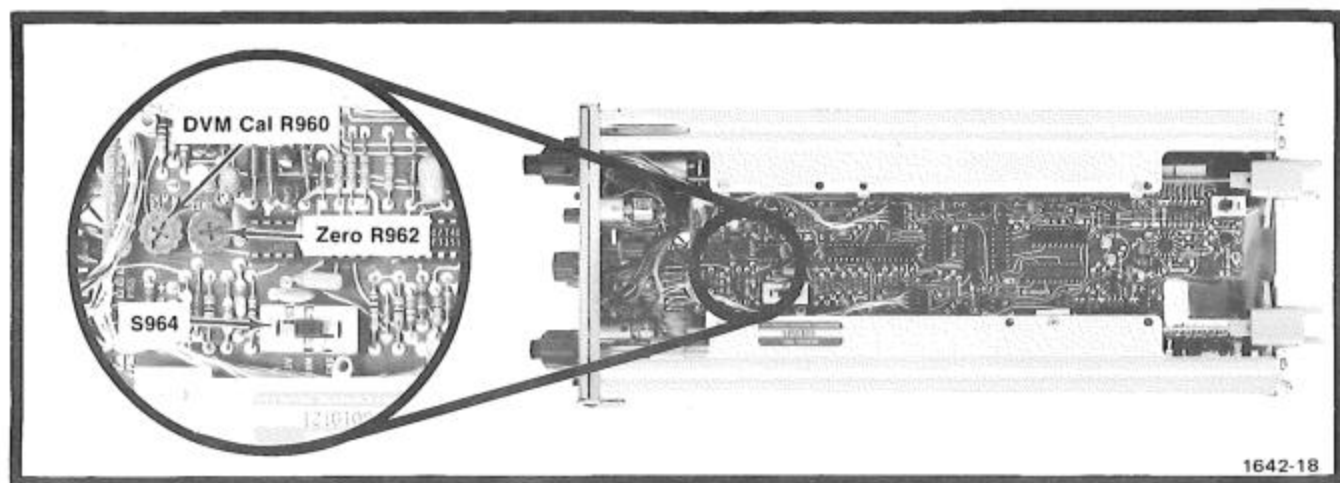

Fig. 5-13. Location of Wavelength Marker Circuit calibration adjustments.
b. Set switch S964 (see Fig. 5-13) to the ground position.
d. ADJUST—Zero adjust R962 (see Fig. 5-13) for a wavelength marker readout of 100 nm. Center the adjustment within the small range that provides 100 nm readout.
g. ADJUST—DVM Cal R960 (see Fig. 5-13) for a wavelength marker readout of 1300 nm.